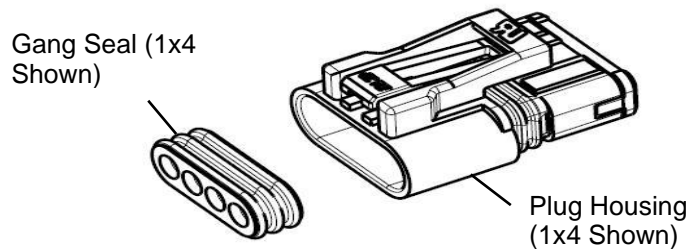

Figure 7
2. Insert the gang seal into the contact cavity at the back end (wire side) of the cap and plug housings as shown in Figure 7. Push seal into the contact cavity until it bottoms in the housing.